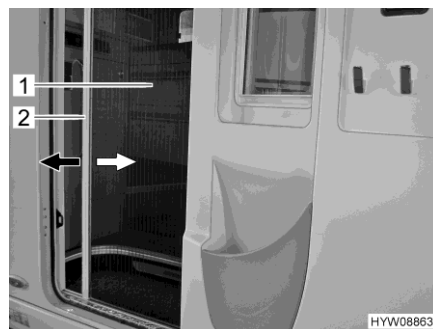

Fig. 18 Insect screen (conversion door)
- Hold holding bar (Fig. 18,2) with both hands and pull the insect screen (Fig. 18,1) evenly out of the door holder.
- Hold holding bar (Fig. 18,2) with both hands and push the insect screen (Fig. 18,1) back into the door holder applying slight pressure.